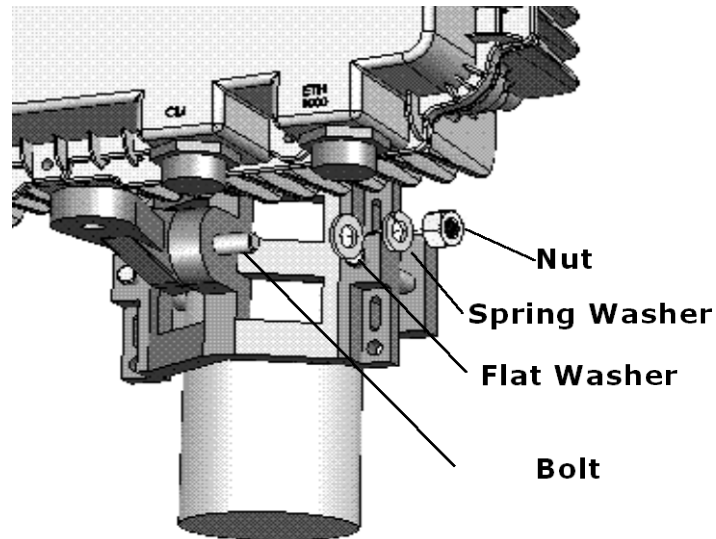

Figure 4: NetPoint Pro 3x2.4 Unit Vertical Pole Mounting
2. Attach the mounting plate to the NetPoint Pro 3x2.4 unit using the M4 captive bolts, as shown in Figure 4.